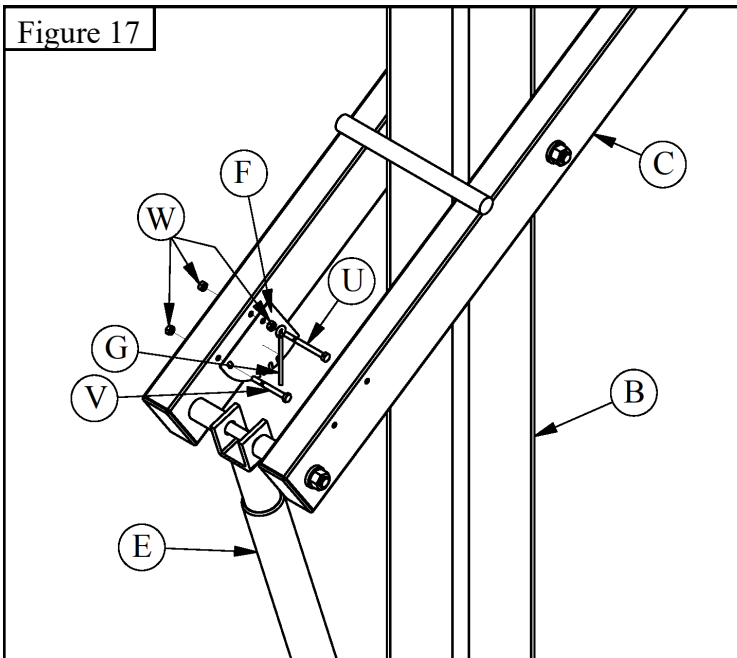

Figure 17
17. Attach *Height Gauge* (F) to the *Lower Arm* (C) with a $1/4'' \times 2 1/2''$ *Hex Bolt* (V) and $1/4''$ *Hex Nut* (W) in the back mounting hole. Slide the *Pointer* (G) onto a $1/4''-20 \times 3''$ *Hex Bolt* (U) then install one $1/4''$ *Hex Nut* (W) against the *Pointer* (G) with just enough slack to let the *Pointer* (G) rotate freely on the $1/4''-20 \times 3''$ *Hex Bolt* (U). Pass this assembly through the front mounting hole in the *Lower Arm* (C) and tighten with the remaining $1/4''$ *Hex Nut* (W). You must tighten the $1/4''$ *Hex Nuts* (W) against each other to lock this assembly in place, if you tighten the $1/4''-20 \times 3''$ *Hex Bolt* (U) you will also tighten the assembly against the *Pointer* (G). The *Pointer* (G) must rotate freely on the $1/4''-20 \times 3''$ *Hex Bolt* (U) once installed to accurately indicate your systems height. Leave the *Height Gauge* (F) hardware loose. See Figure 17.